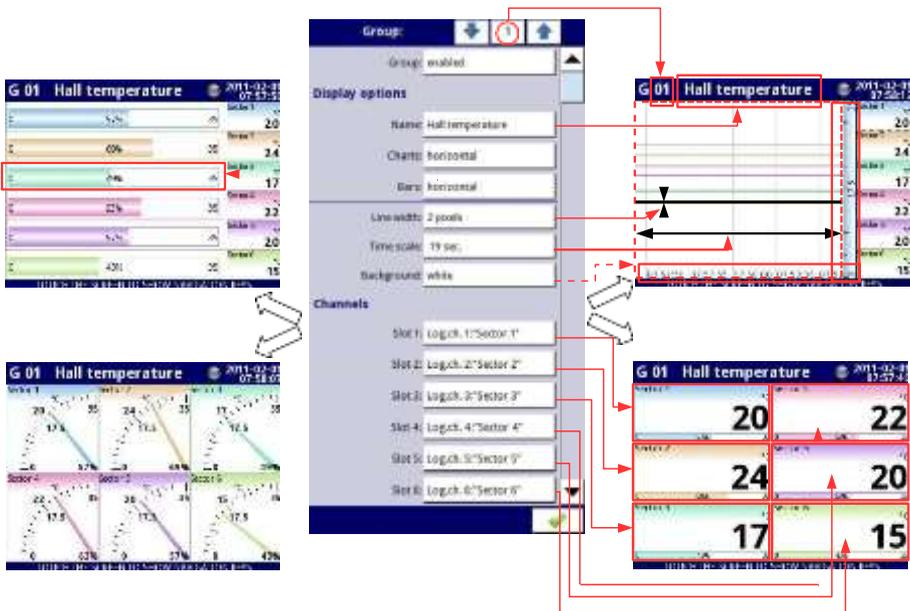
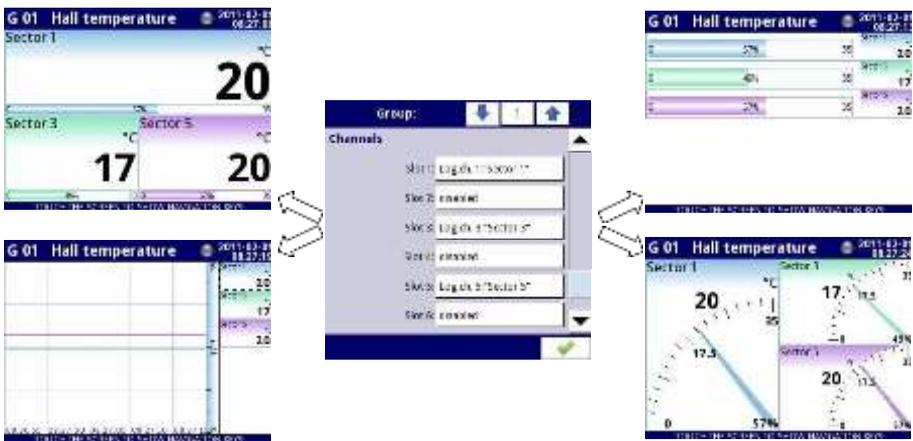

Fig. 7.137. Sample of **Group** parameters settings - all Slot set to **Logical channel**
Fig. 7.139. Sample of **Group** parameters settings - Slots set to **Logical channel** and set to **disabled**
- **Slot 1-6** - in each slot the user can select an option (see Fig. 7.137÷Fig. 7.139):